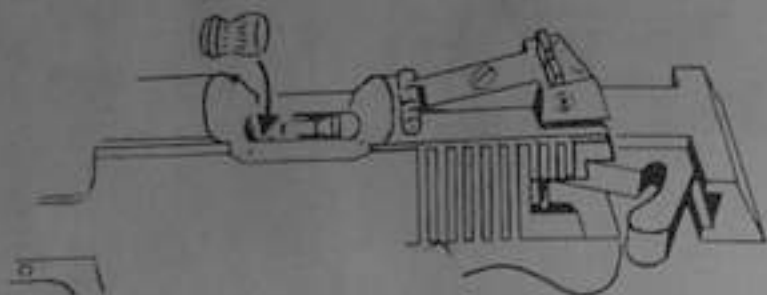

FIG. 3
2. Pellet Loading—(Refer to Figure 3) Keeping muzzle pointed in a safe direction, push in the bolt release lever and pull the bolt all the way back. Place a pellet in the pellet chamber. Push the bolt back to its original position.